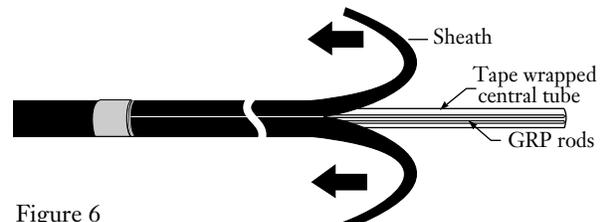

Figure 6
4.7 Starting at the end of the cable, peel back both sections of split sheath to expose the water blocking tape-wrapped central tube and GRP rods (Figure 6).